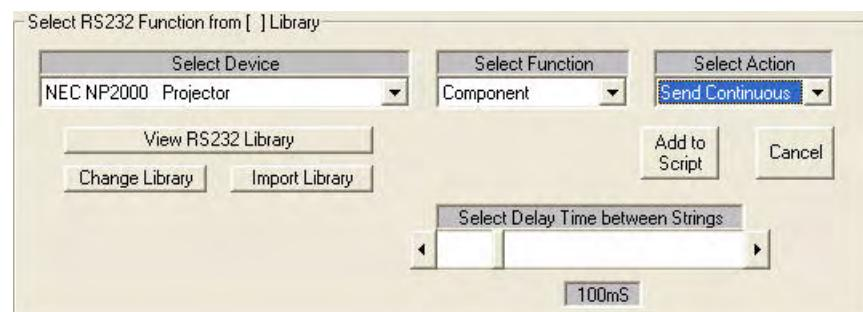

FIG. 32 Select RS232 Function window - Send Continuous/Delay Time between Strings
- **Send Continuous** sends continuous strings while a button is executed. A delay time can be set between strings. This action is useful for Volume Up and Down commands. Setting a delay time of 150mS between strings gives a steady ramp up and down (FIG. 32).